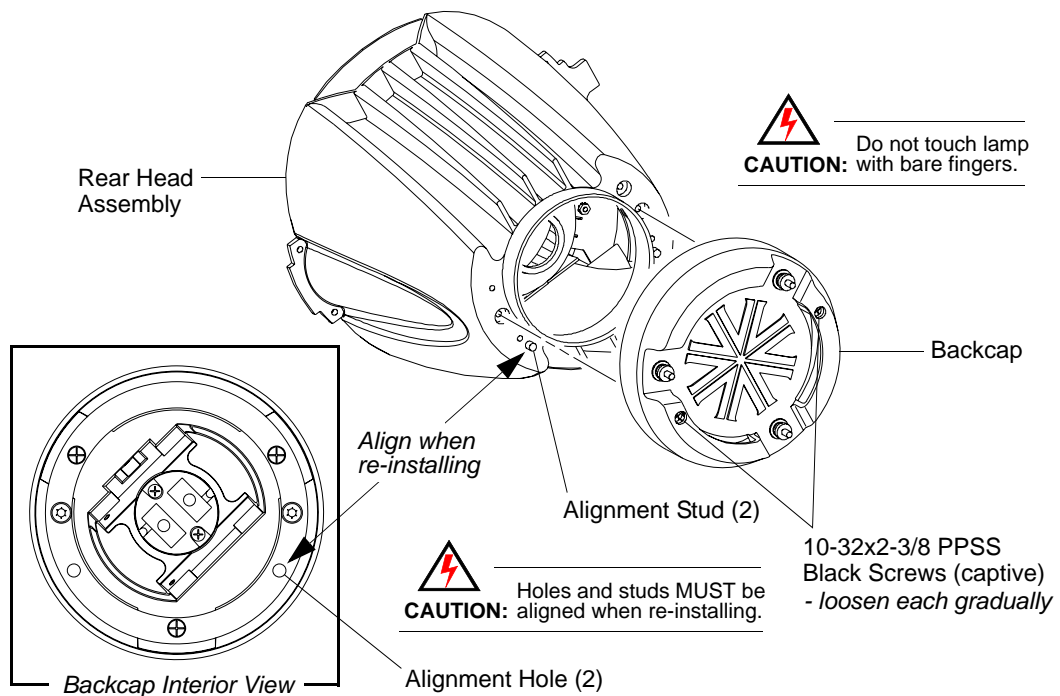

Figure 2-3: Removing Arc Backcap
- Step 2. At backcap, gradually loosen two 10-32x2-3/8" PPSS black screws (Figure 2-3) a few turns at a time until backcap is free. (Screws must be alternately loosened to prevent one side from locking up.)
- Step 4. Re-install backcap, ensuring that alignment studs and holes are aligned (**Figure 2-3**).